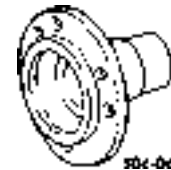
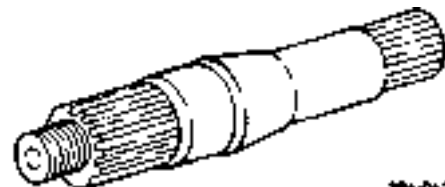

Figure 9-75: Output Flange
Figure 9-77: Output Shaft
- 3. Inspect splines and sealing surfaces on output flanges, pinion yoke, and output shaft for damage (Figure 9-75) through (Figure 9-77).